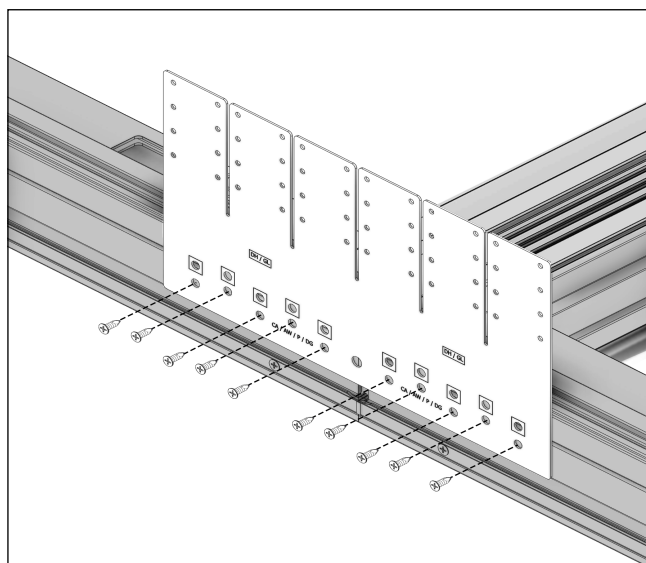

Figure 39
9. Fasten full gusset plates with the supplied #7 x 1/2" flathead screws. Do not over-tighten. See Figure 39.